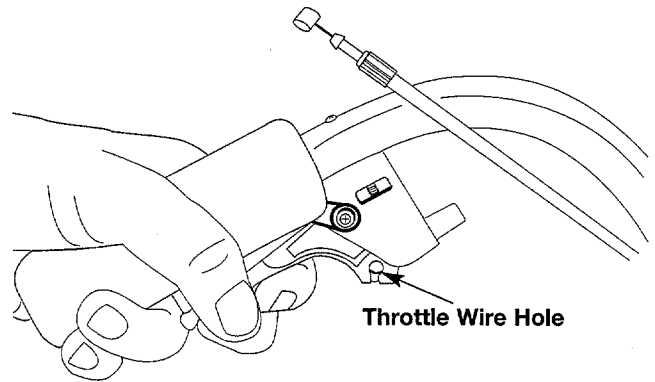

Figure 10
2. Depress the throttle trigger and locate hole for the throttle wire. See Figure 10.